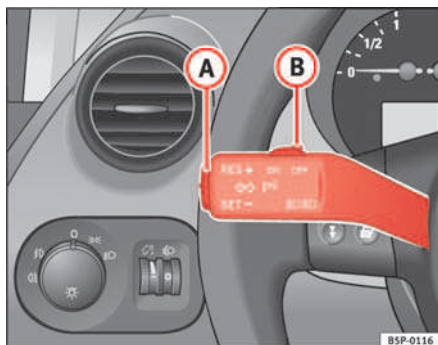

Fig. 141 Turn signal and main beam lever: switch and rocker switch for CCS
- Press the upper part of the rocker switch **RES** ⇒ fig. 141 **A** to increase the speed. The vehicle will continue to accelerate for as long as you keep the rocker switch pressed. When you release the switch, the new speed is stored.
Control of the set speed is switched off if you reduce speed by depressing the brake pedal. You can reactivate the regulator by pressing once on the upper part of the rocker switch **RES+** ⇒ fig. 141 **A**.